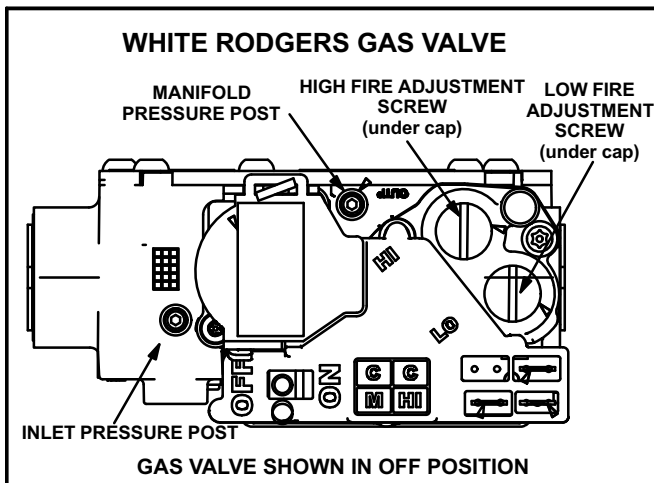

FIGURE 4
- 2 - Remove the access panel. Move the automatic gas valve switch to **OFF**. See figure 4.
- 6 - Move the switch on the gas valve to **OFF**. Do not force the switch. See figure 4.
An inlet pressure post located on the gas valve provides access to the supply pressure. See figure 4. Back out the 3/32 hex screw one turn, connect a piece of 5/16 tubing and connect to a manometer to measure supply pressure. Check unit on high fire. On multiple units installations, check unit separately and with other units operating. See table 1 for supply line pressure. Following supply pressure check, turn off unit, remove manometer and tighten pressure post hex screw.
A manifold pressure post located on the gas valve provides access to the manifold pressure. See figure 4. Back out the 3/32 hex screw one turn, connect a piece of 5/16 tubing and connect to a manometer to measure manifold pressure.
- 1 - Connect test gauge to manifold pressure post (figure 4) on gas valve.
- 4 - If necessary, make adjustments. Figure 4 shows location of high fire and low fire adjustment screws.
- 5 - If necessary, make adjustments. Figure 4 shows location of high fire and low fire adjustment screws.